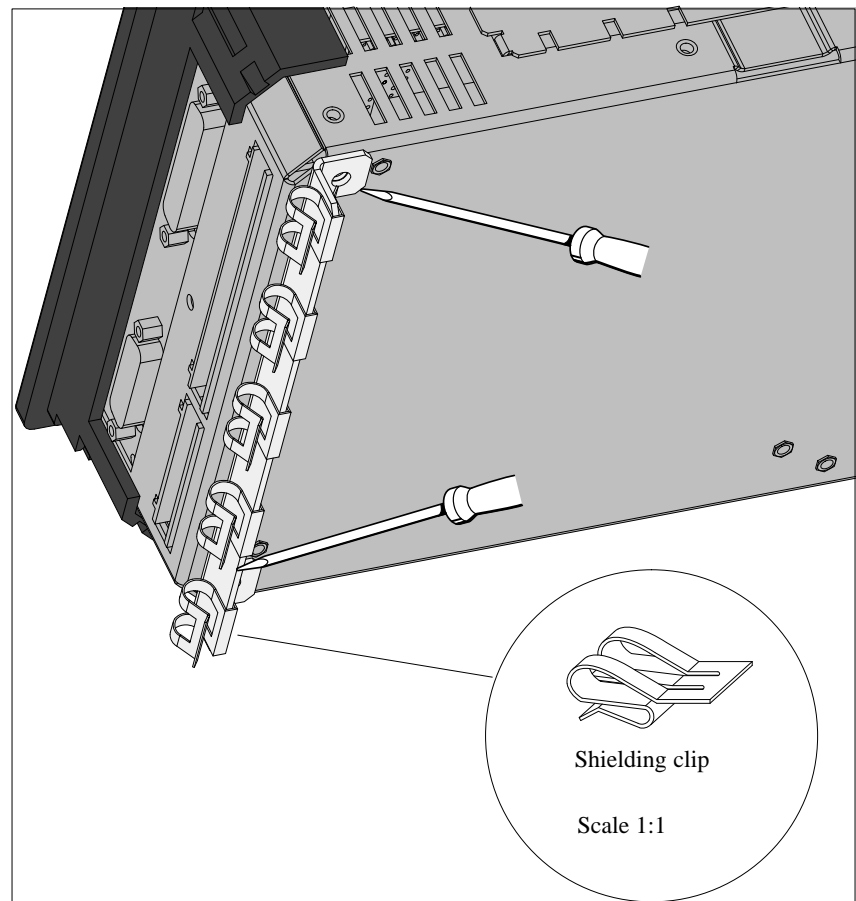

Figure 2-10 C7 with Grounding Bar and Shielding Clips
1. Unfasten the two screws on the C7 as shown in Figure 2-10.
2. Position the grounding bar as shown in Figure 2-10 and fix this in place with the previously removed screw.
3. Affix the shielding clips to the grounding bar as shown in Figure 2-10.